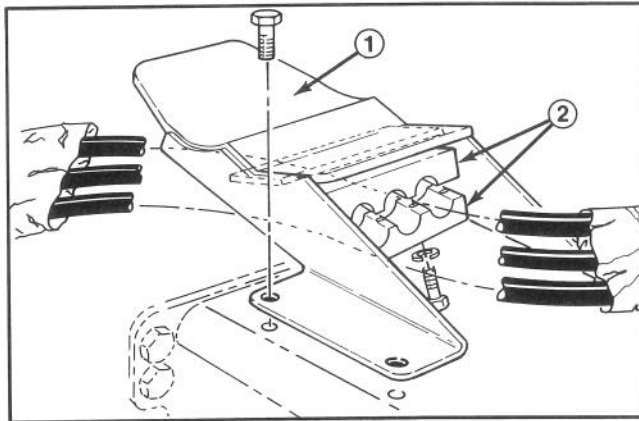

Figure 9
- A. Loosely secure the hydraulic hoses to underside of tipper brackets with hose clamps, capscrews and lockwashers as shown in Fig. 9. Position the smallest hydraulic line toward the rear of the machine. Do not tighten clamps at this time.
- E. Tighten tipper bracket clamps on #4 and #5 (Fig. 9).